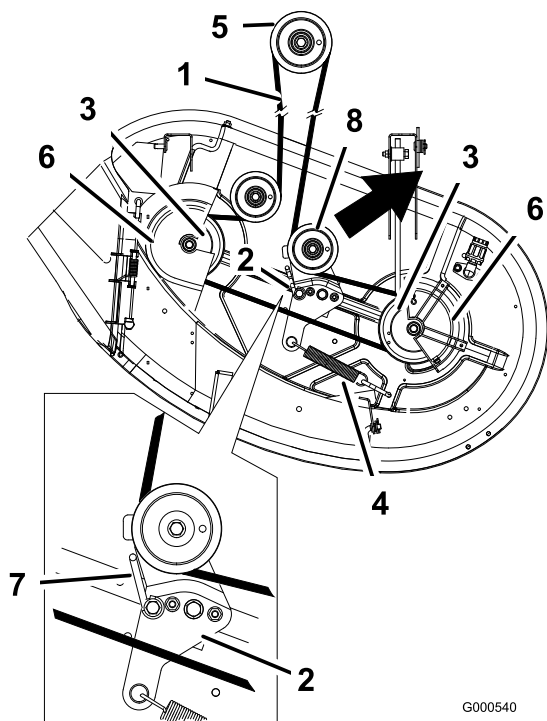

Figure 50
4. Remove the belt covers over the outside spindles and loosen the belt guide (Figure 50).
5. Pull the idler pulley in the direction shown in Figure 50 and roll the belt off of the pulleys.
6. Route the new belt around the engine pulley and mower pulleys (Figure 50).
7. Pull the idler pulley in the direction shown in Figure 50 and route the belt onto the idler pulley (Figure 50).
8. Rotate the belt guide, on the idler arm, towards the pulley until it stops (Figure 50).
9. Tighten the belt guide (Figure 50).